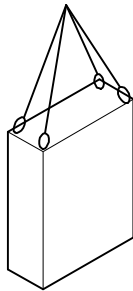

Fig. 6
1. Fasten ropes, belts or multiple-point suspension gear Fig. 6 accordingly.